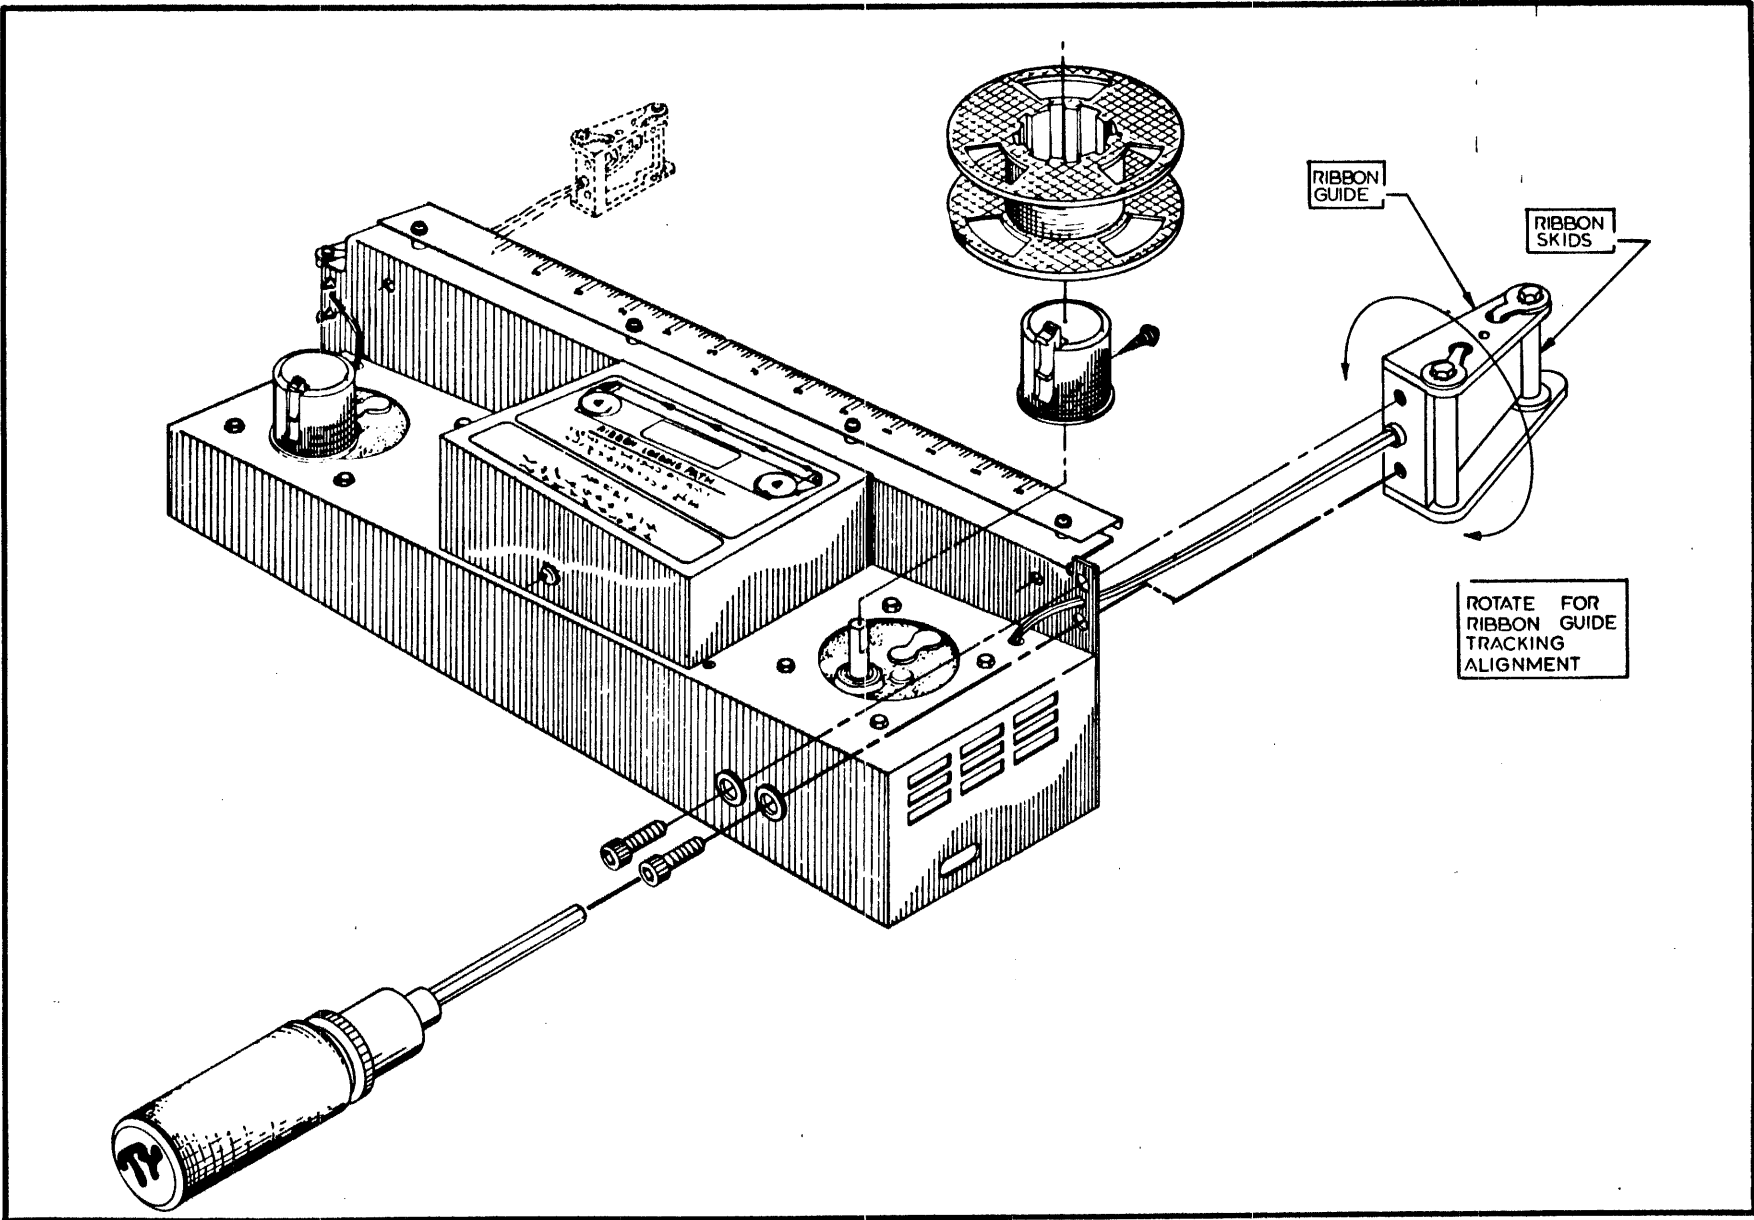

Figure 82 Adjusting a Ribbon Drive
- g. If the ribbon is not centered in the left-hand ribbon guide, loosen the ribbon guide holding screws but leave them snug enough to hold by friction (**Figure 82**). Pivot the guide on its locating pin (on top of the guide) so that the ribbon tracks in the center of the guide, then tighten the screws.